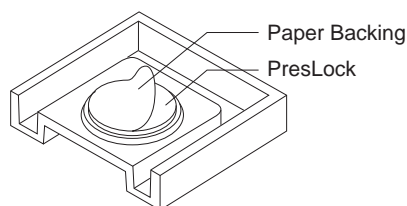

FIG. 3
4. Peel paper backing from adhesive on PresLock (FIG. 3)